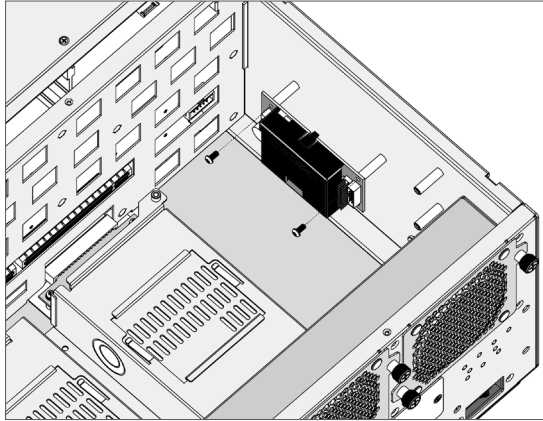

Figure B-9, Secure the Battery Module
2. After removing the cover, then secure the battery pack module (ARC-6120-BAT-12G, reference NO.1 in Figure B-1) on the right side within the enclosure (for ARC-7324), as shown in Figure B-9.